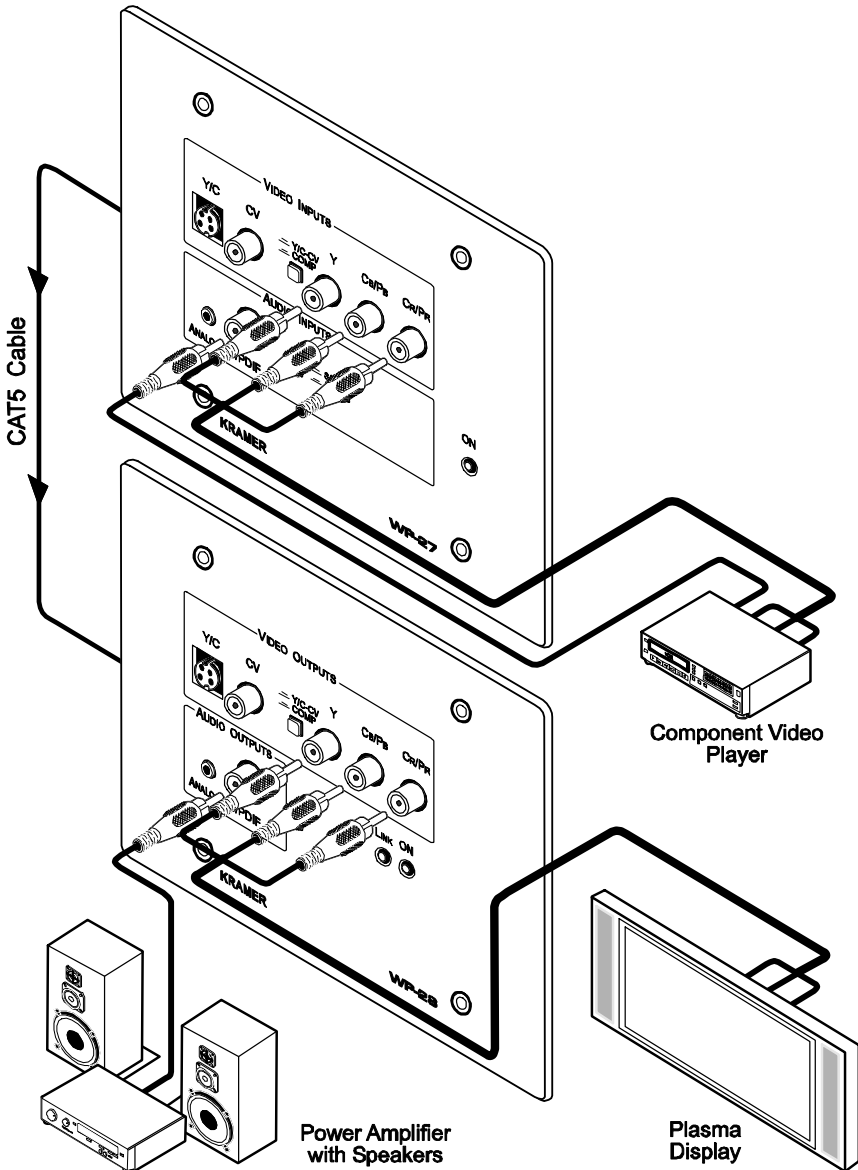

Figure 5: Connecting the WP-27 / WP-28
In the example illustrated in Figure 5, the **WP-27 / WP-28** CAT5 Transmitter and Receiver system is set up to transmit a component video signal (for example, for high quality home cinema).
To connect the Transmitter and Receiver system, as shown in the example illustrated in Figure 5, do the following1:
6. On both6 the **WP-27** and the **WP-28**, connect the 12V DC power adapter to the power socket and connect the adapter to the mains electricity (not shown in Figure 5).